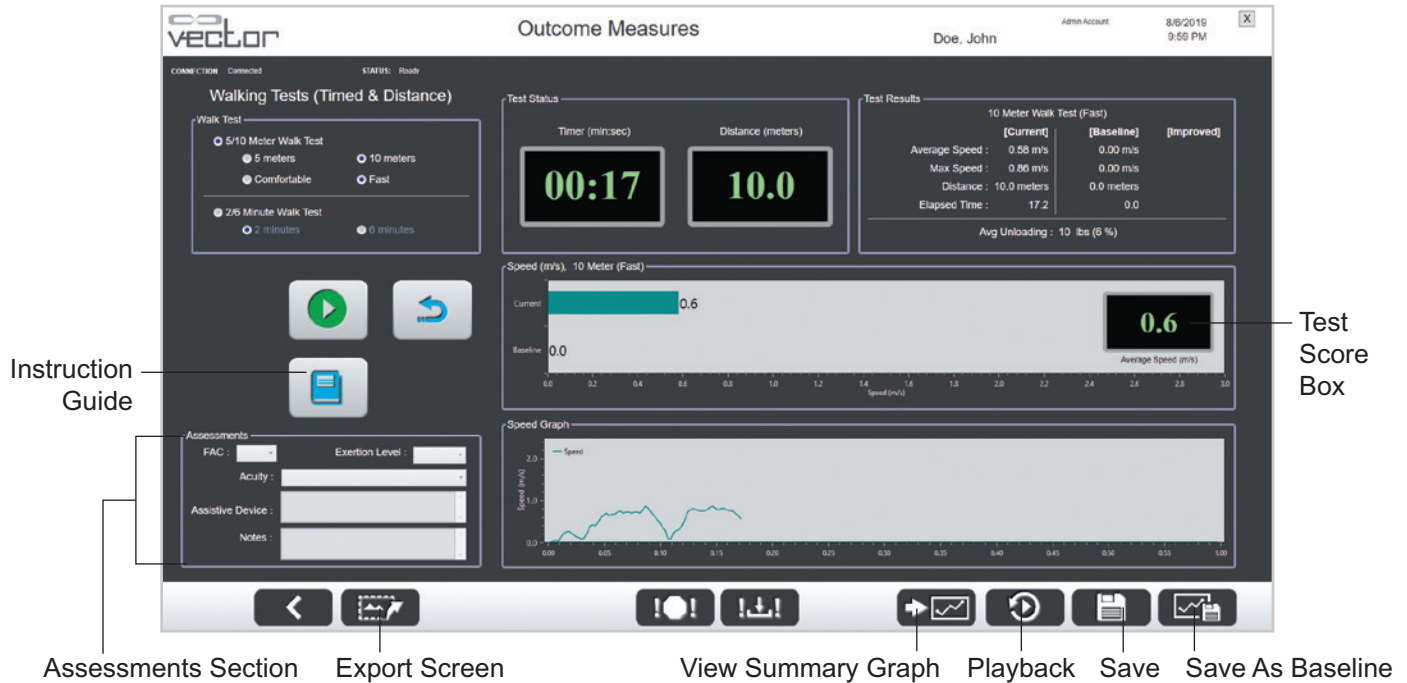

Figure 7-8: Outcome Measures Walking Tests Screen (Test Results, Graphs, and Buttons)
11. The test results and graphs will be displayed on the screen. The Walk Test Score will be displayed in the test score box. See Figure 7-8. For a 5/10 meter Walk Test the Test Score is gait speed in meter per second (m/s). For a 2/6 minute Walk Test the Test Score is distance in meters. Press the Playback button to review the test. See Figure 7-8. The recorded test run will be replayed from beginning to end.
13. Press the Save button. See Figure 7-8. **The Save button must be pressed to save test results.** If the button is not pressed before starting another test run or before leaving the screen the current test run results will not be saved to the patient summaries.
14. To save the current test as a baseline, press the Save As Baseline button. See Figure 7-8.
15. To export the current test screen as a screen capture image, press the Export Screen button. See Figure 7-8. When the Export Screen button is pressed, the software saves the test screen as a PNG file and a Save As window will appear. Select the location to save the file.
Note: Press the Instruction Guide button to open a window displaying the walking tests instructions from this guide. See Figure 7-8.